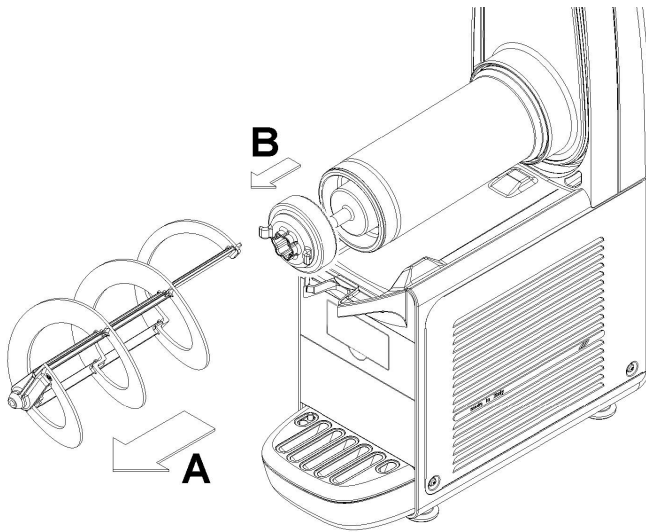

figure 10
- 3 Remove the mixer by sliding it out of the evaporator cylinder. Then remove the hexagonal joint (see figure 10).